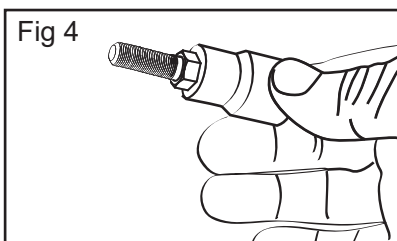

Fig 4
- 3 After removal, the nut may be stuck in the socket. Use a punch bar provided and a hammer to punch the stuck nut out of the twist socket (Fig. 4, 5 and 6).